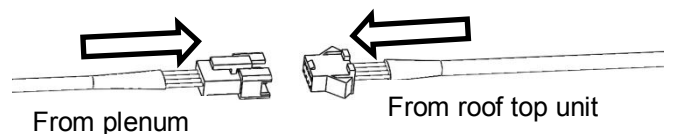

Figure 11 - Connect control cable
- Connect the control cable that leads from the plenum to the roof top unit. Ensure the plug mates with the socket and catch is engaged. Figure 11